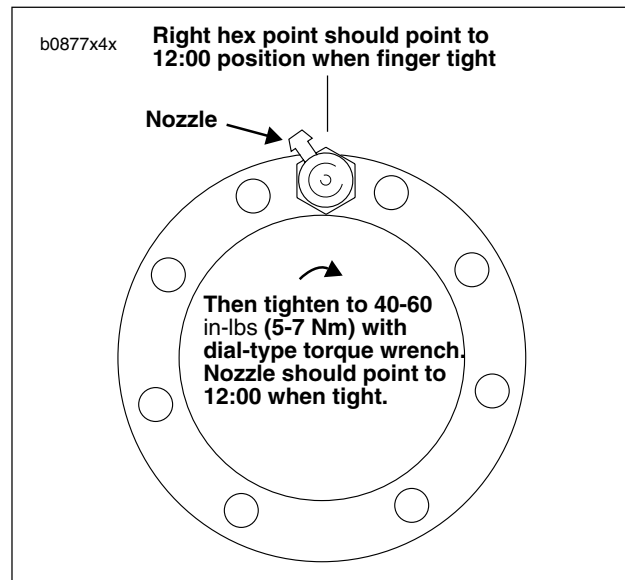

Figure 4-32. Fuel Tank Vent Alignment
6. See Figure 4-32. Align fitting so right front point of hex is oriented to 12:00 position when fitting is tightened finger tight. Make sure O-ring remains in groove of fitting while tightening.